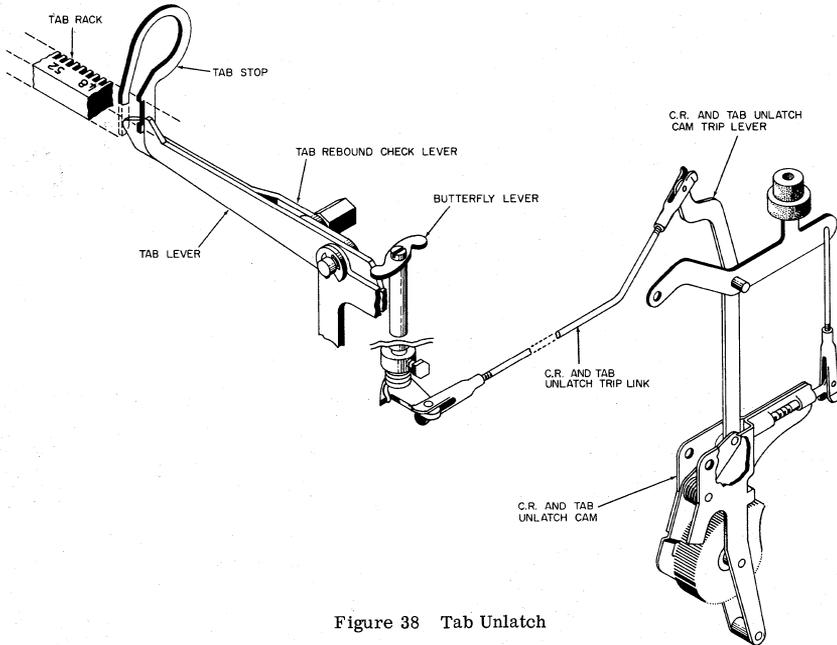

Figure 38 Tab Unlatch
18. The carriage return and tab unlash cam trip link (Figure 38) should be adjusted carefully because it releases the CR & Tab unlash cam through the CR & Tab unlash cam trip lever, and therefore is a "finger on the key lever", although the mechanism is machine actuated.